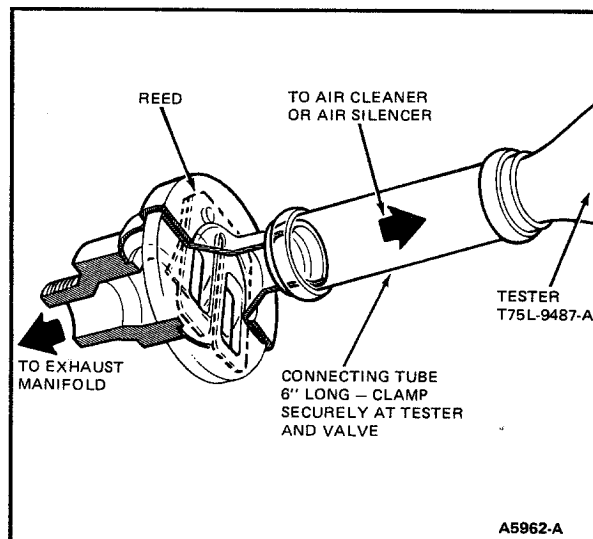

Figure 2 Pulse Air Valve (Thermactor II)
The Pulse Air Valve (Fig. 2) replaces the air pump application in some thermactor systems. It permits air to be drawn into the exhaust system on vacuum exhaust pulses and blocks the backflow of high pressure exhaust pulses. The fresh air completes the oxidation of exhaust gas components.
2. Disconnect the hose on the inlet side of the air valve, and connect the check valve tester T75L-9487-A or equivalent as shown in Fig. 2. Note that a 6 inch length of tube, securely clamped, should be used between the valve and the tester.